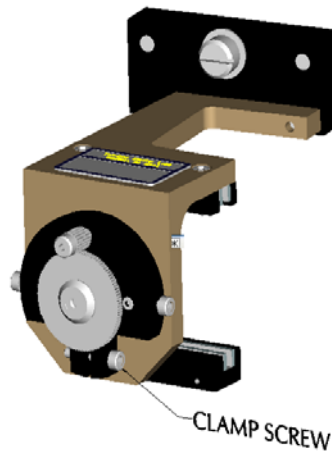

Figure 8-5
4. Loosen the cap screws and remove the cover that protects the Iris Adjustment Mechanism. There is a reduction gear drive mechanism under the cover used to provide precise adjustment of the Iris. See Figure 8-5.